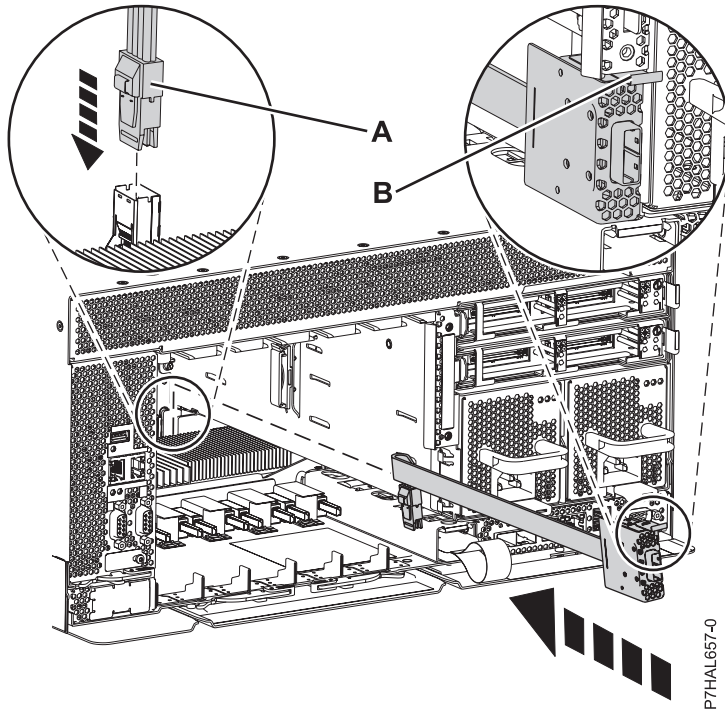

Figure 52. Replacing the SAS cable
1. Connect the external port to the back of the system **(B)** until it snaps in place, as shown in Figure 52 on page 86.